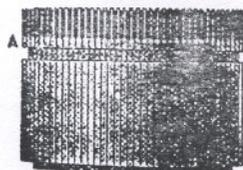

Fig. 6.
The cylinder (Fig. 6) which fits inside the cam shell and is secured to the base by two screws (11), has grooves cut in it all the way round, in which the needles work; they are held in position by a belt (12) which fits in the groove (A) running round the cylinder.